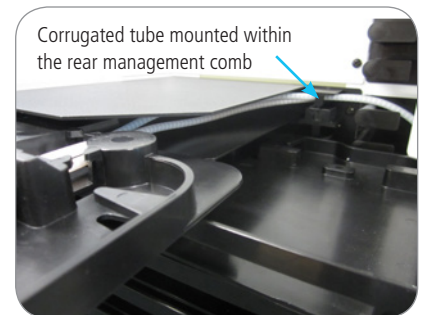

Figure 9.
- Route the corrugated tube through to the rear of the module and into the rear fibre management comb. See **Figure 9**.